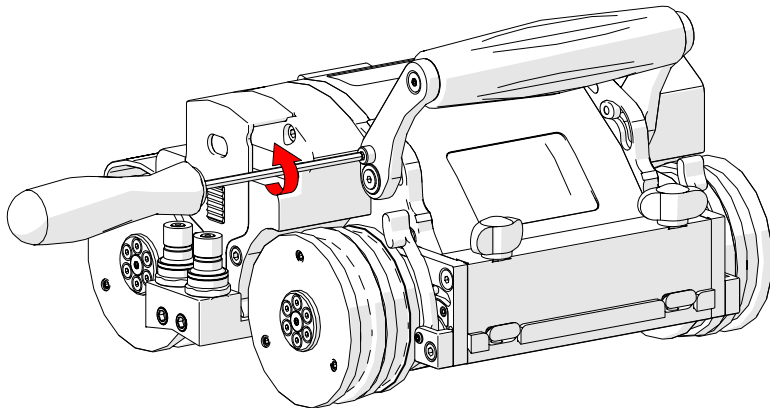

Fig. 61 - Unscrew handle lock screw
1. To lower the handle, use the supplied 3 mm driver to loosen the handle lock screws on either side of the handle (Fig. 61).